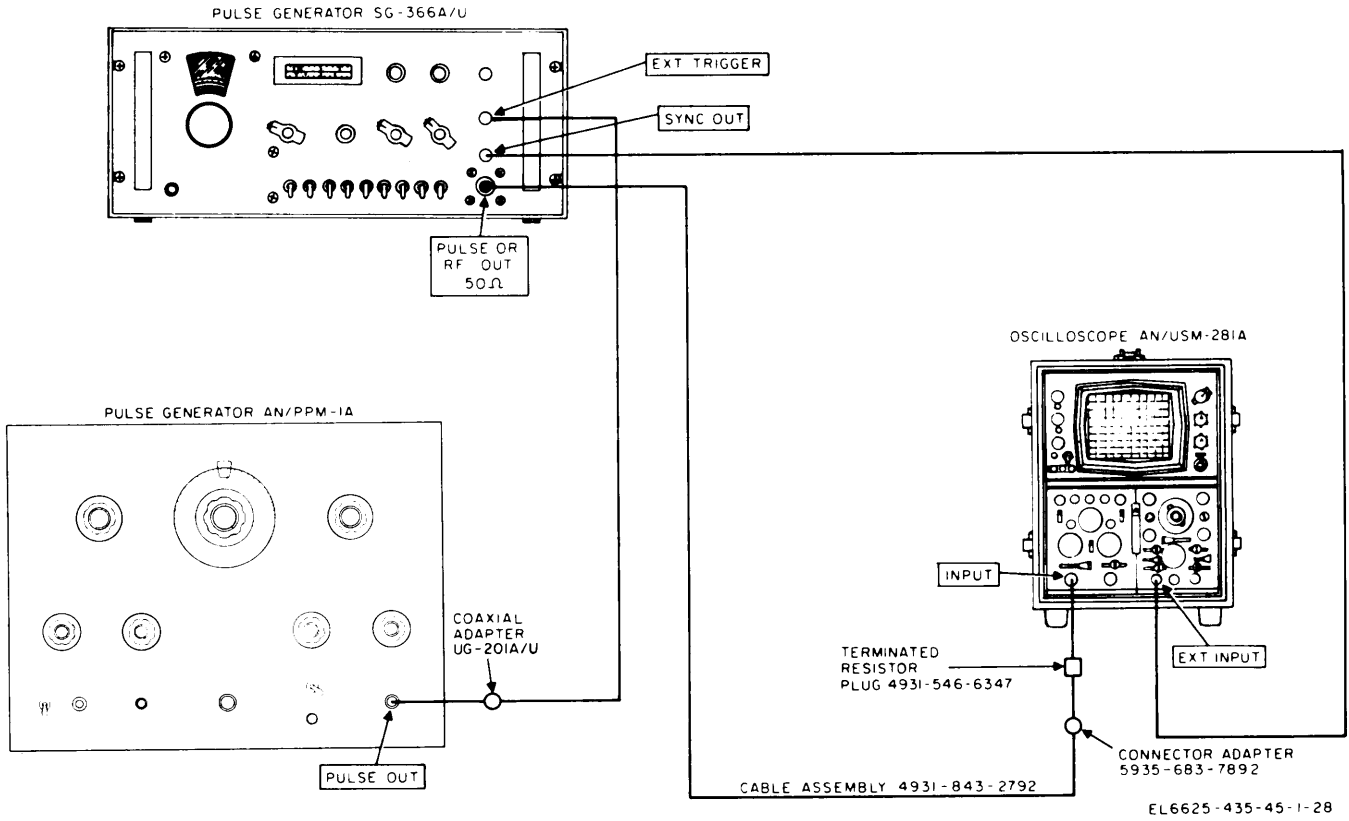

Figure 4-8. External trigger test, equipment setup.
- (1) Oscilloscope AN/USM-281A.
- (2) Pulse Generator AN/PPM-1.
b. Test Connections and Conditions. Connect the equipment as shown in figure 4-8.